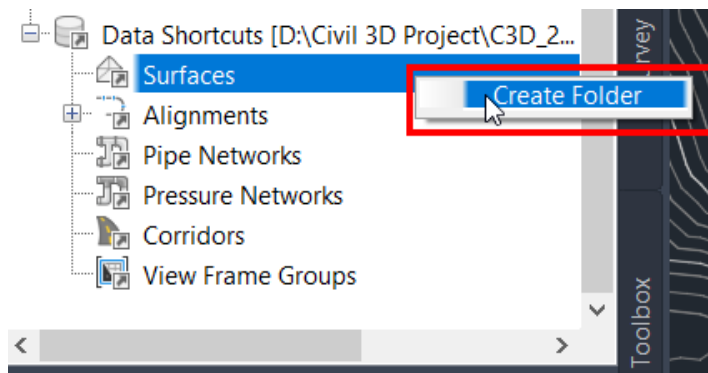

Figure 2.11 – Creating a folder in the Data Shortcuts project
1. Once your **Data Shortcuts** project has been associated with your drawing, right-click on the Civil 3D modeled objects in your **Data Shortcuts** project and select the **Create Folder** option, as shown in *Figure 2.11*: